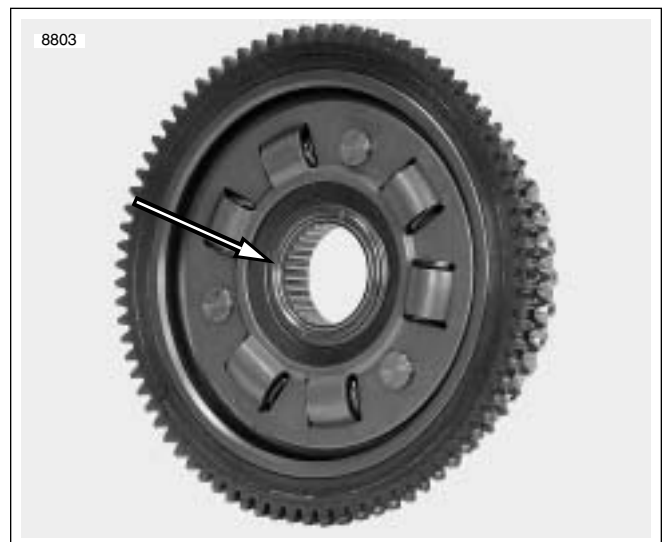

Figure 6-27. Needle Bearing in Clutch Shell
9. See Figure 6-27. Inspect clutch shell needle bearing for smoothness. Rotate the clutch shell while holding the clutch hub. If bearing is rough or binds, it must be replaced. See CLUTCH SHELL BEARING REPLACEMENT.